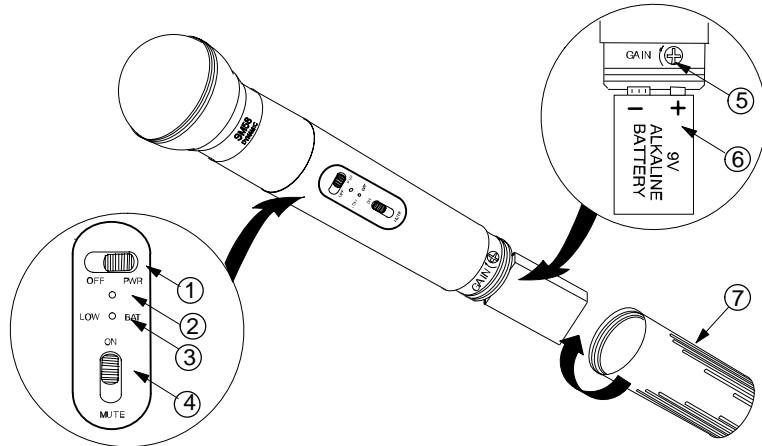

FIGURE 3. AXH2 MICROPHONE-TRANSMITTER FEATURES
3. **AXH2:** Unscrew the transmitter battery cover to expose the battery terminals, as shown in Figure 3.